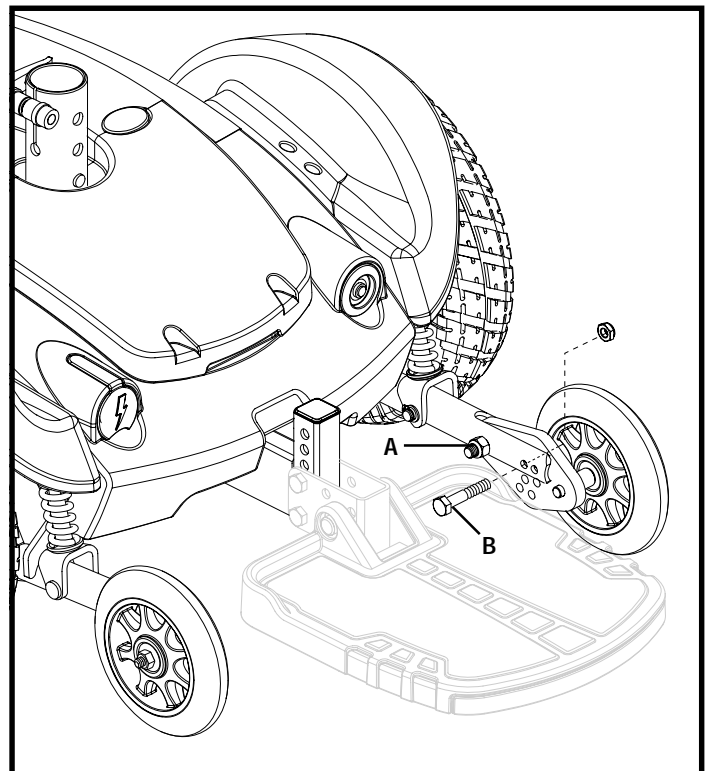

Figure 19. Anti-Tip Wheel Adjustment
1. Loosen nut A. See figure 19.